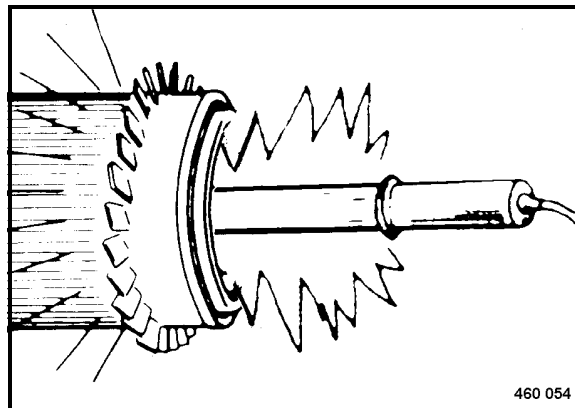

Fig. 125
- Check the air filter cartridge (Fig. 125) from inside with a torch for holes, cracks, flutes or other damage.